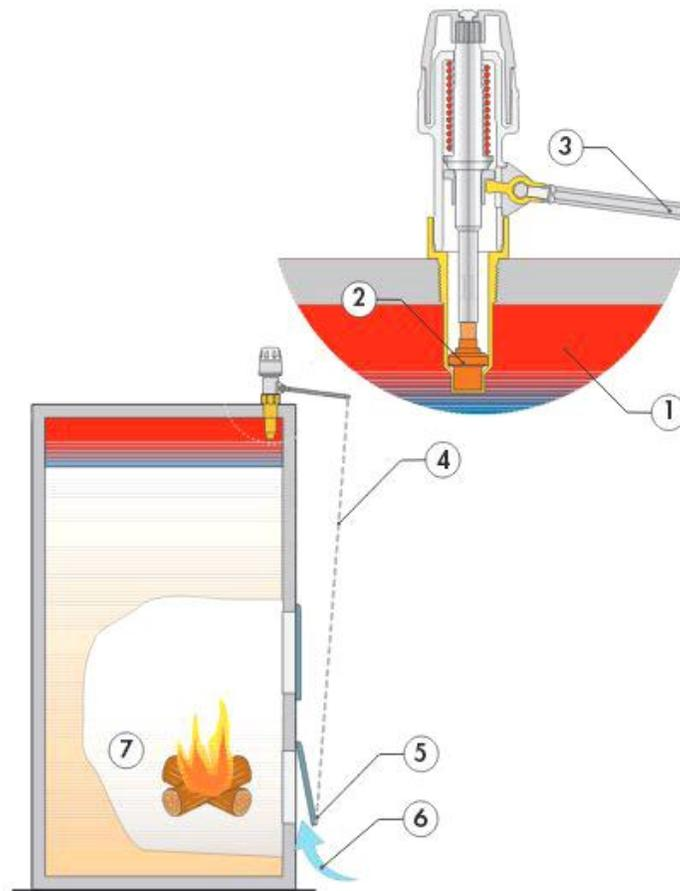

Figure 6. Operating principle for draught governor
Operating principle (**figure 6**): Draught governor acts on the air draught value in the solid fuel boiler, by changing the cross section and by this the flow of the air for burning. If water temperature inside the boiler is changed (**figure 6, item 1**), by widening or contraction of the thermostatic probe (**figure 6, item 2**) which is connected to the lever gear consisting of control lever (**figure 6, item 3**) and chain (**figure 6, item 4**), draught governor changes opening of the door (**figure 6, item 5**) for combustion air supply (**figure 6, item 6**). When water temperature falls under preset value, draught governor pulls the chain (**figure 6, item 4**) and increase the opening of the door (**figure 6, item 5**) so that more air can enter the combustion chamber (**figure 6, item 7**), which increase the rate of burning. When water temperature rises, draught governor
slackens the chain (**figure 6, item 4**) and closes the door of the opening (**figure 6, item 5**), which limits entrance of combustion air (**figure 6, item 6**). In this way the burning process is kept under control, so that the water temperature in the boiler is constant preventing overheating and excessive consumption of fuel.